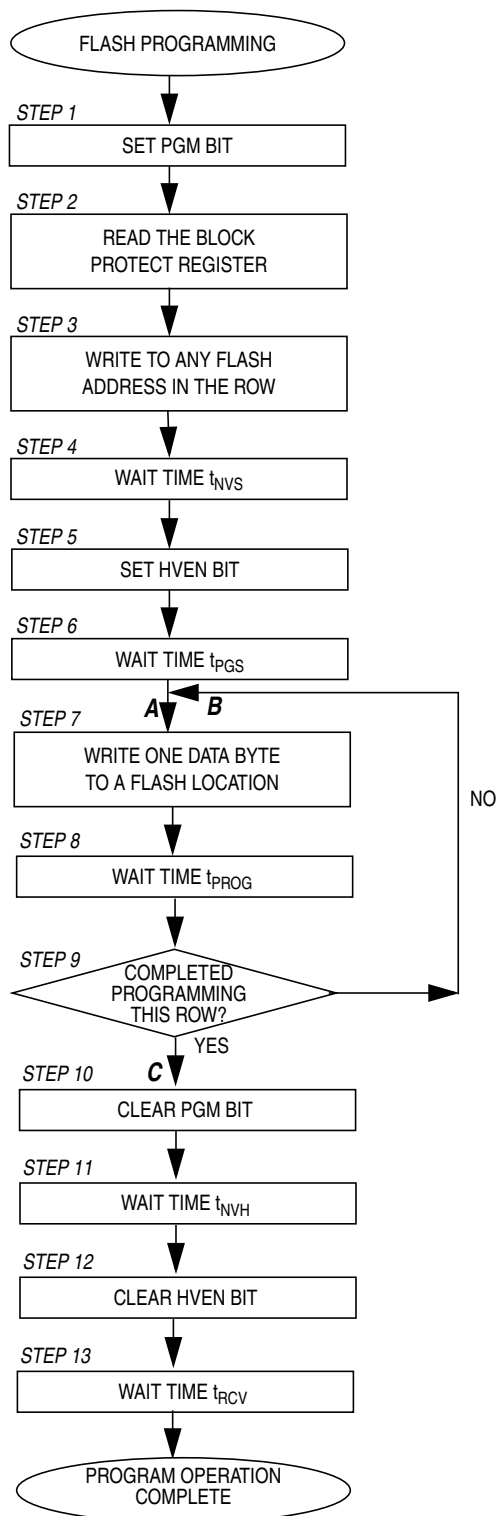

Figure 4. FLASH Programming Algorithm Flowchart
The programming flowchart is shown in Figure 4.
t_{PROG} is the 1-byte programming time. t_{PROG} actually includes the total time from step 7 (A on the flowchart) back to step 7 (B on the flowchart) for additional byte programming, or from step 7 (A) to step 10 (C on the flowchart) for the last byte. This total time must be between 30 and 40 μ s in both cases. Refer to Figure 4.